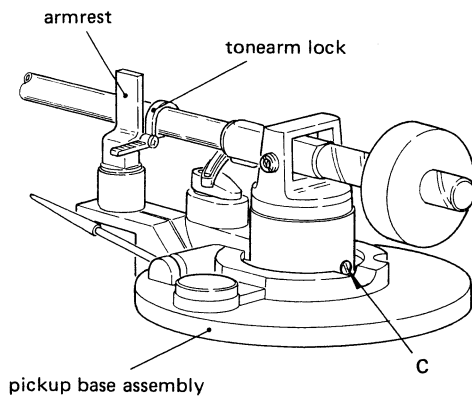

Fig. 3-7
5. Referring to Fig. 3-7, loosen the set screw marked "C".
3. Tighten the set screw marked "C" in Fig. 3-7.